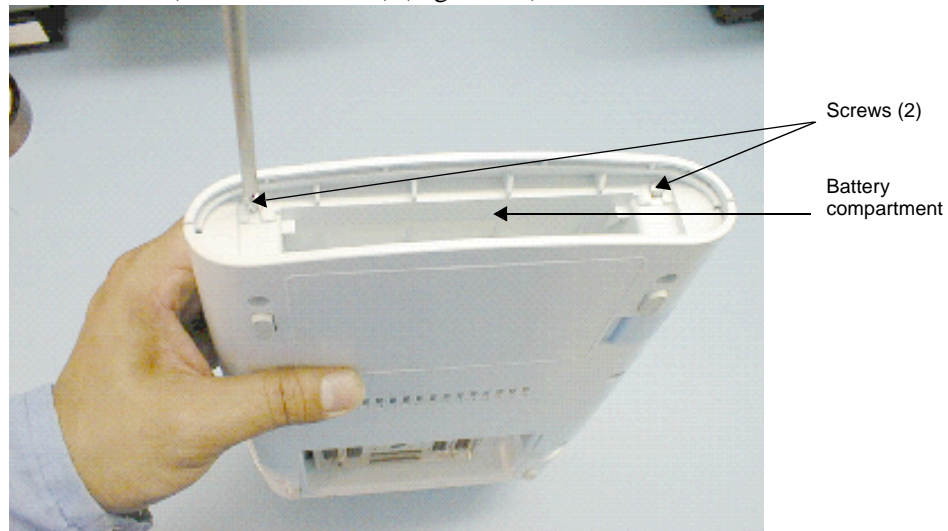

Figure 7.8 Replacing the Control Panel
5. Set the Control Panel into place and use a #1 Phillips screwdriver to replace the two screws inside the battery compartment. Torque the screws to 7.1 in./lb (0.8 newton meter) (Figure 7.8).
2. Use a #1 Phillips screwdriver to remove the two screws in the battery compartment, which releases the Control Panel from the top housing (Figure 7.8).